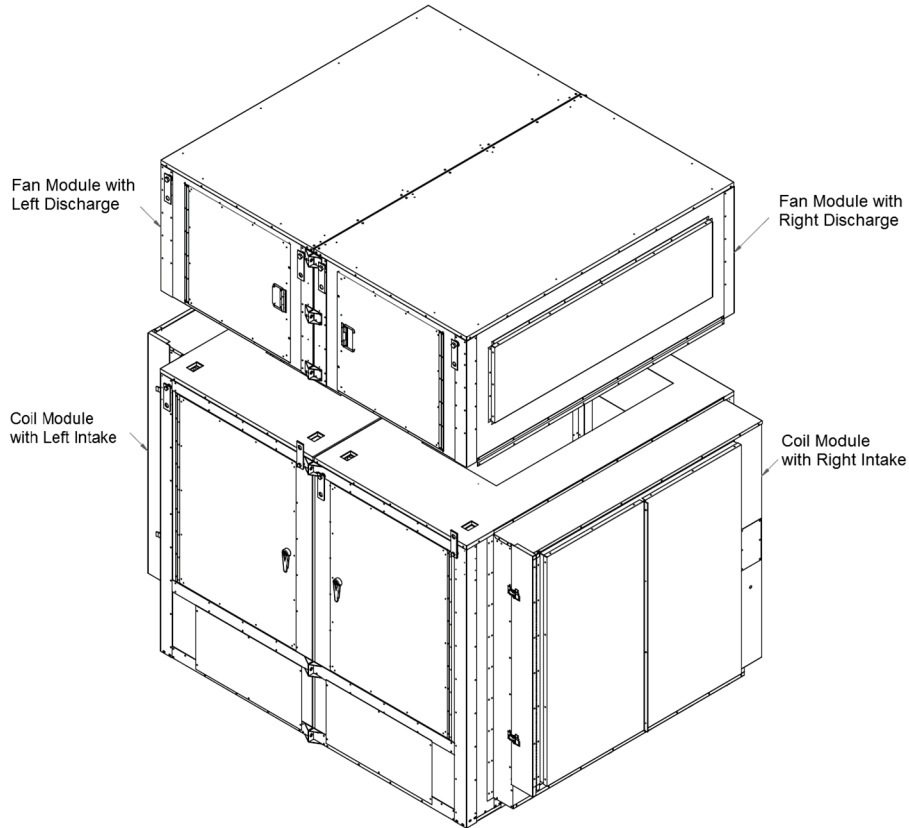

Figure 8- Dual unit without splices and before being bolted together.
2. Move the coil section to the required location. See Figure 8.